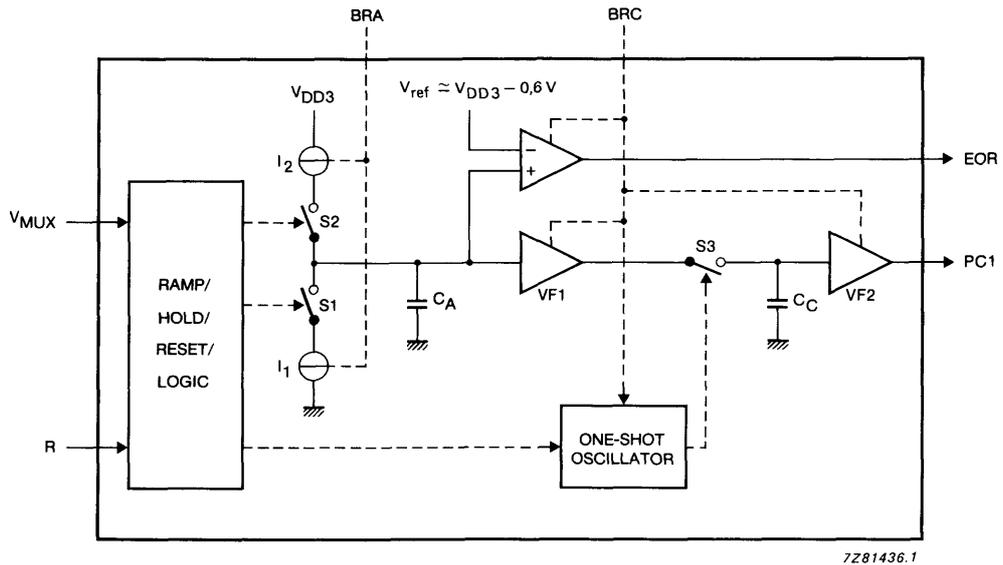

Fig. 3 Simplified block diagram of phase comparator 1.
**Phase comparator 1** (see Fig. 3)